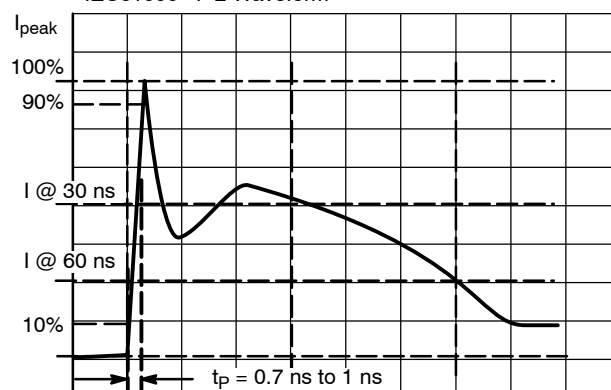

Figure 3. IEC61000-4-2 Spec
- For test procedure see Figures 3 and 4.